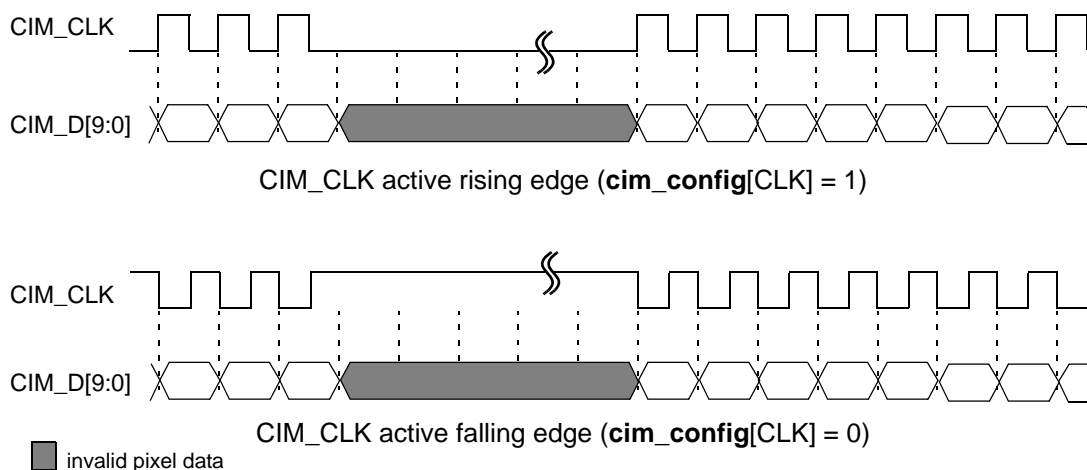

Figure 9-3. CIM_CLK Data-ready Mode (`cim_config[PUL] = 1`)
- In *data-ready* mode (`cim_config[PUL] = 1`), CIM_CLK pulses with a specified level every time valid pixel data arrives on CIM_D[9:0], as shown in Figure 9-3.